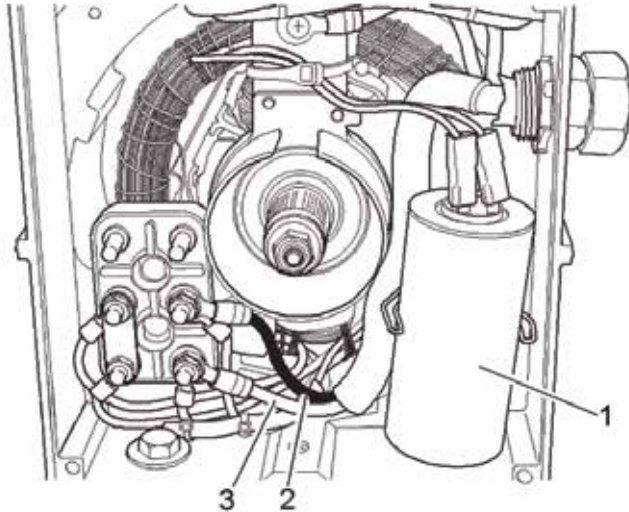

Figure 5-17. Generator Testing View
- Use volt meter to measure between the two main input wires L1 and L2 (**Figure 5-17,2,3**). If you measure from L1 to the frame of the paver, or ground, the voltage will be half of the rated output of the generator. The voltage should be the same as measured at the control box.
- Use volt meter to measure between the two main black and white input wires located inside the control box on the terminal block similar to one in **Figure 5-17** The voltage should be the same as measured at the generator.
2. Use volt meter, set to read frequency (Hz), to measure between the two main input wires L1 and L2 (Figure 5-17).